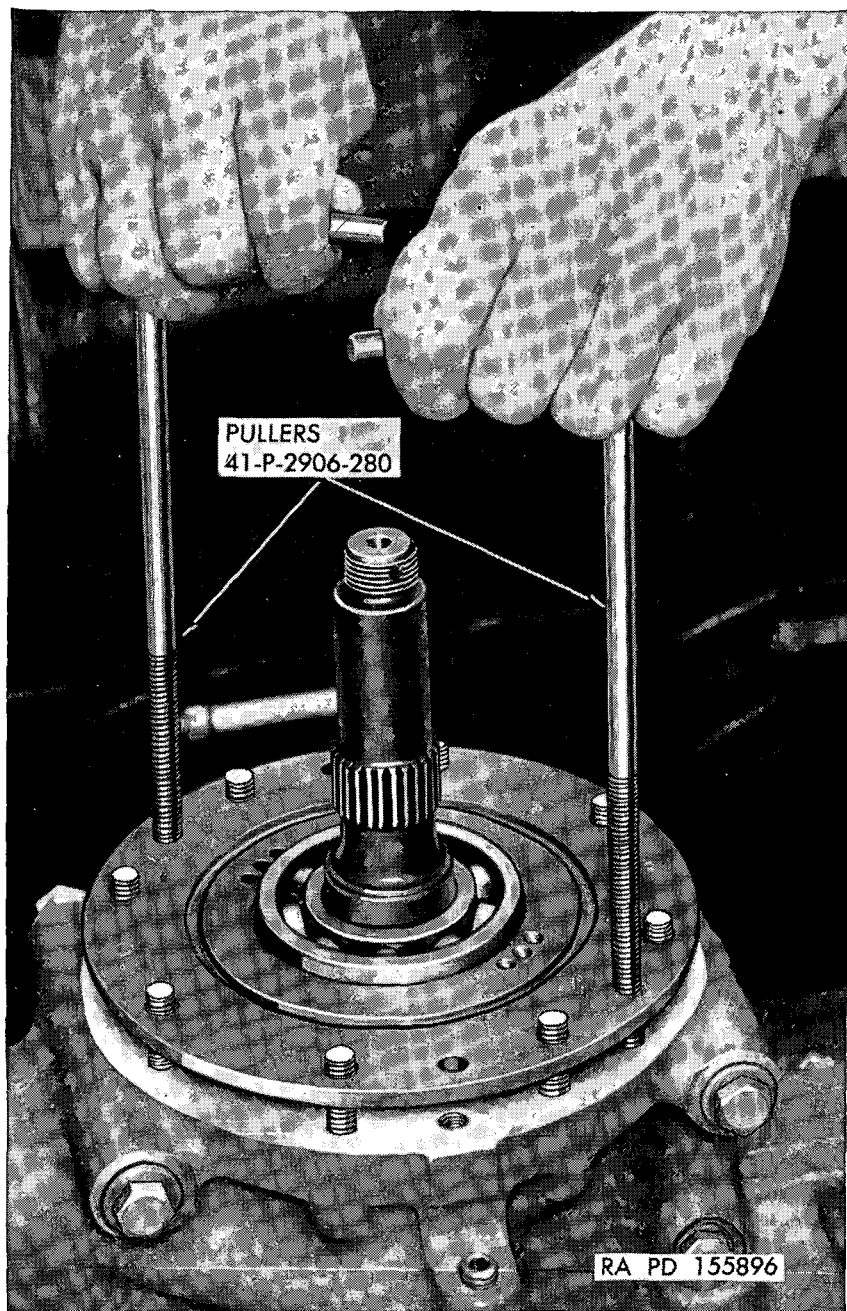

Figure 26. Removing fan drive bearing housing.
c. Lift the fan drive vertical shaft bearing housing (F) and the fan drive vertical shaft (C, fig. 82) from the crankcase. Use puller 41-P-2906-280 (fig. 26). Discard "O" ring gaskets.